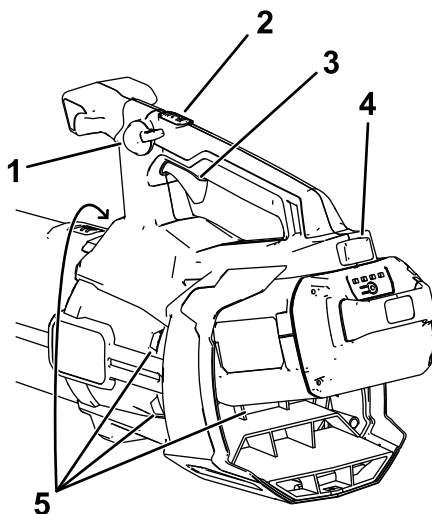

Figure 9
2. Align the cavity on the battery pack with the tongue in the handle housing (Figure 9).
4. To start the blower, squeeze the variable-speed trigger (Figure 9).
Note: Engage the speed lock to keep the machine on without pressing the variable-speed trigger (Figure 9).
To adjust the air speed as you blow, use the variable-speed trigger (Figure 9).
To maintain the current air speed, engage the speed lock (Figure 9).
To achieve maximum performance, depress the variable-speed trigger, then press the turbo boost button to turn boost on (Figure 9).
To shut off the blower, disengage the speed lock (if in use) and release the variable-speed trigger (Figure 9).